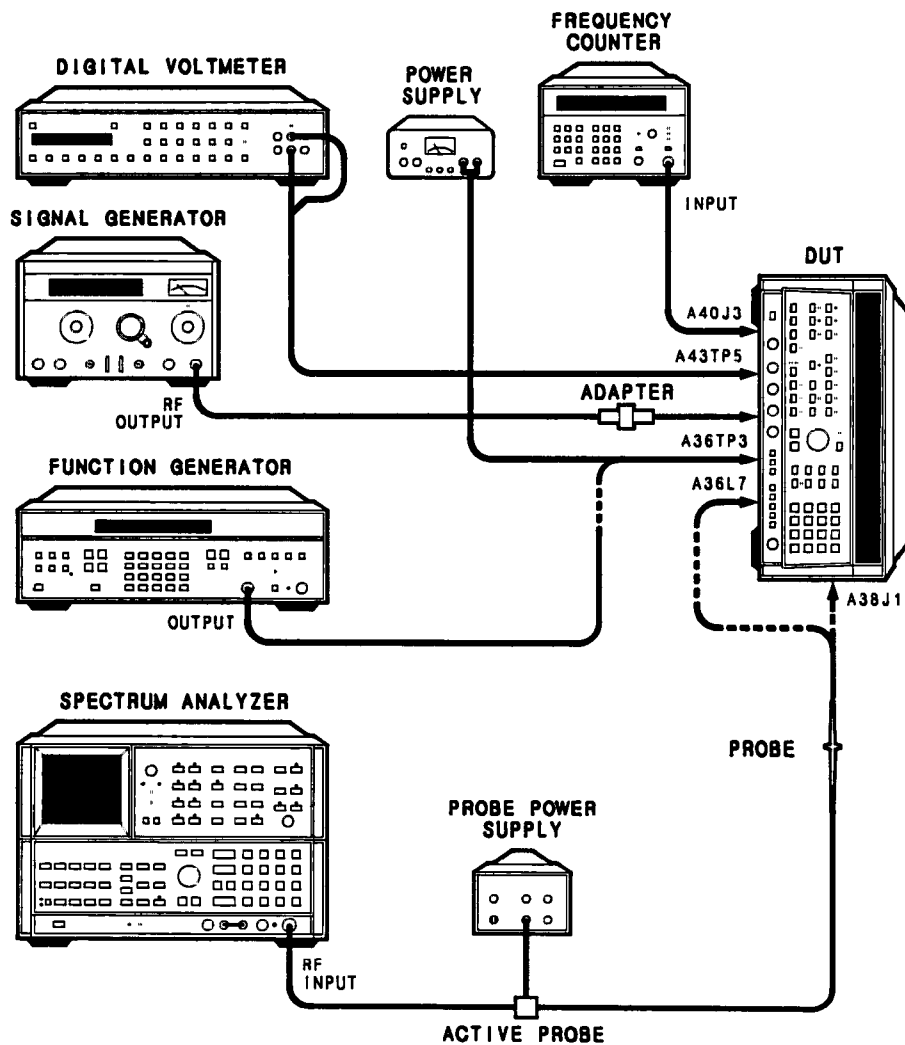

Figure 5-9. 20/30 Loop Phase Lock Adjustments Setup
1. Position the DUT in test position as shown in Figure 5-9 with bottom cover removed and allow one-half hour warm up time. Set LINE switch to STANDBY. Remove A41 PLL2 Phase Detector from its connector on the motherboard. (It is not necessary to completely remove the A41 assembly from the instrument).